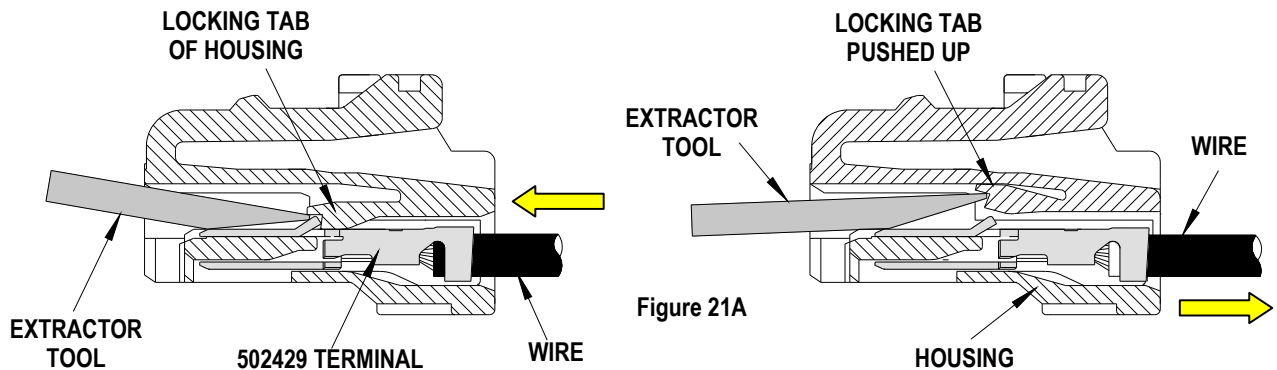

Figure 21A
2. Insert the Extractor Tool into the slot above the terminal in the connector housing as shown in Figure 21A and 21B.